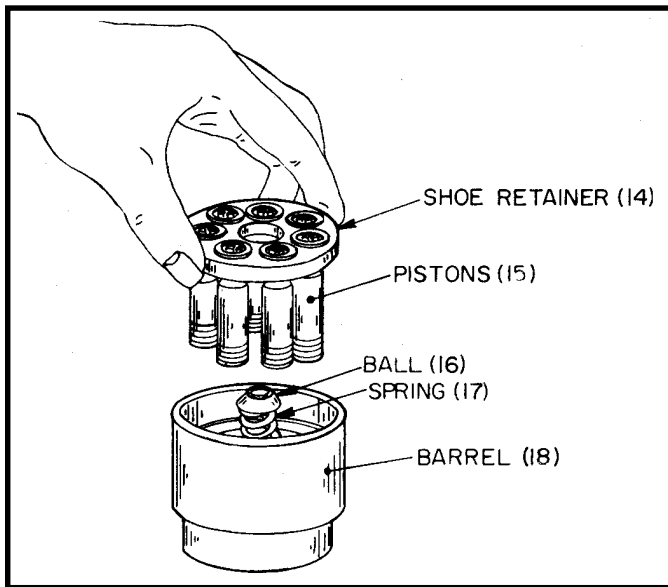

Figure 8. Rotating Group Disassembly (511783).
See Figure 8. Lift off shoe retainer (14) with piston/shoe assemblies (15) and remove fulcrum ball (16) and shoe retainer spring (17).
See previous Figure 8. Place the cylinder barrel (18), wear surface down, on a clean cloth. Place the shoe retainer spring (17) in the center of the barrel with the fulcrum ball's (16) flat face on top of it. Before dropping the pistons/shoe assemblies (15) into holes of the shoe retainer (14), hold the retainer horizontally so the curved surface of the inside (shaft) bore is on the bottom side. **This is necessary so the curved surface of the retainer will mate with the curved surface of the fulcrum ball.** As a unit, fit the pistons into their corresponding bores in the cylinder barrel. **DO NOT FORCE.** If aligned properly, the pistons will fit smoothly.